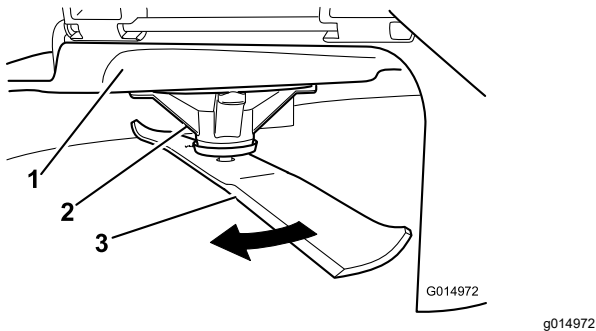

Figure 65
2. While wearing thickly padded gloves, or other adequate hand protection, slowly rotate the blade into a position that allows you to measure the distance between the cutting edge and the level surface the machine is on (Figure 65).